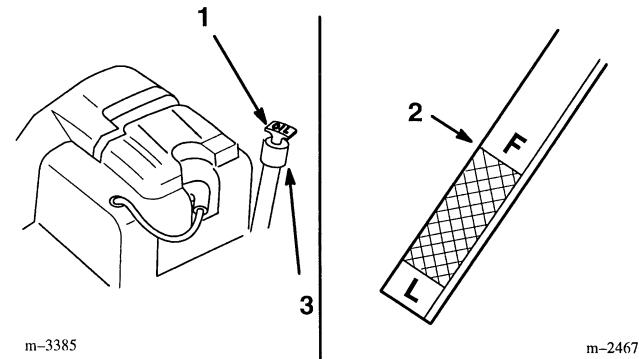

Figure 17
3. Clean around the oil dipstick (Fig. 17) so dirt cannot fall into the filler hole and damage the engine.
4. Pull the oil dipstick out and wipe the metal end clean (Fig. 17).
5. Push the oil dipstick fully into the filler tube (Fig. 17). Pull the dipstick out and look at the metal end. If oil level is low, slowly pour only enough oil into the filler tube to raise the level to the "FULL" mark.
6. Slowly pour approximately 80% of the specified amount of oil into the filler tube (Fig. 17). Now check the oil level; refer to Checking Oil Level, page 19. Slowly add additional oil to bring to “FULL” mark on dipstick.